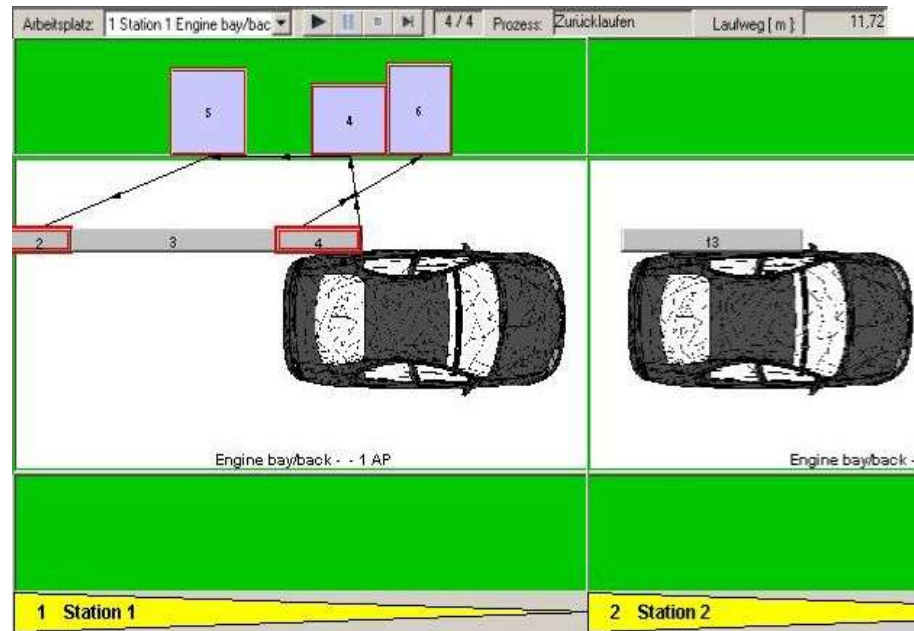

Figure 277: Example for Simulating or Showing Walkways
- An employee fetches the needed parts for each process in work from the parts bin separately. Please refer to the Figure 277.